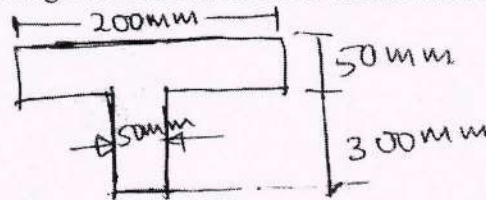

Fig.Q9(b)
- b. A simply supported beam of span 6 m has a cross section as shown in Fig.Q9(b). It carries 2 point loads each of 30 kN at a distance of 2m from each support. Calculate the bending stress and shear stress for maximum values of bending moment and shear force respectively. Draw neat diagram of bending stress and shear stress distribution across the cross section.